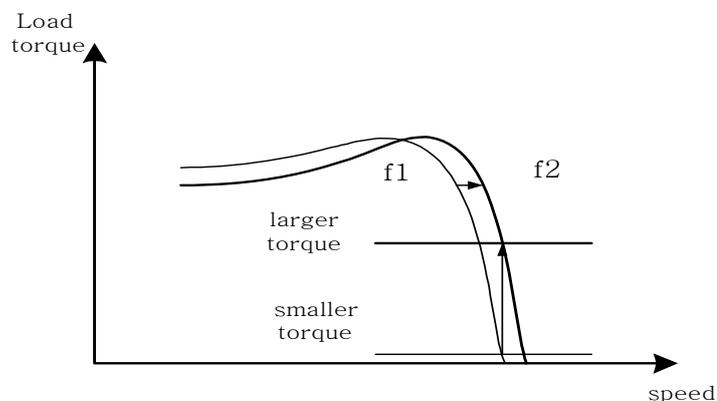

Fig 19 Output frequency with slip compensation. The output frequency will shift from f1 to f2 (>f1) for the positive change of load torque.
The slip compensation value and the compensated frequency are shown below. (See Fig 19)
(5) Motor rated slip (Cn-11)
- This setting is used as a reference value for torque compensation function. See Fig 19. The setting is 0.0~9.9% as a percentage of motor Max. voltage frequency (Cn-04) as 100%.